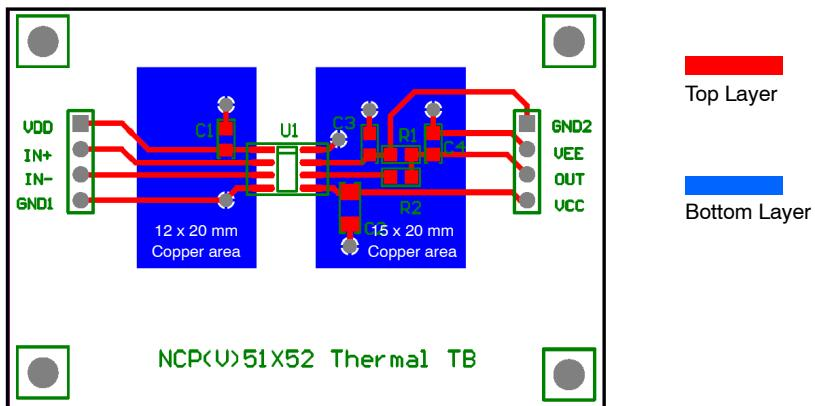

Figure 5. Reference Layout for the Type-B
8. As specified for a reference layout shown in Figure 5. The DUT is mounted on a 60 x 40 x 1.6 mm FR4 substrate with an additional heat spreading copper of 240 mm²/300 mm² (Primary/Secondary). The copper thickness is 1oz and test conditions is under natural convection or zero air flow.